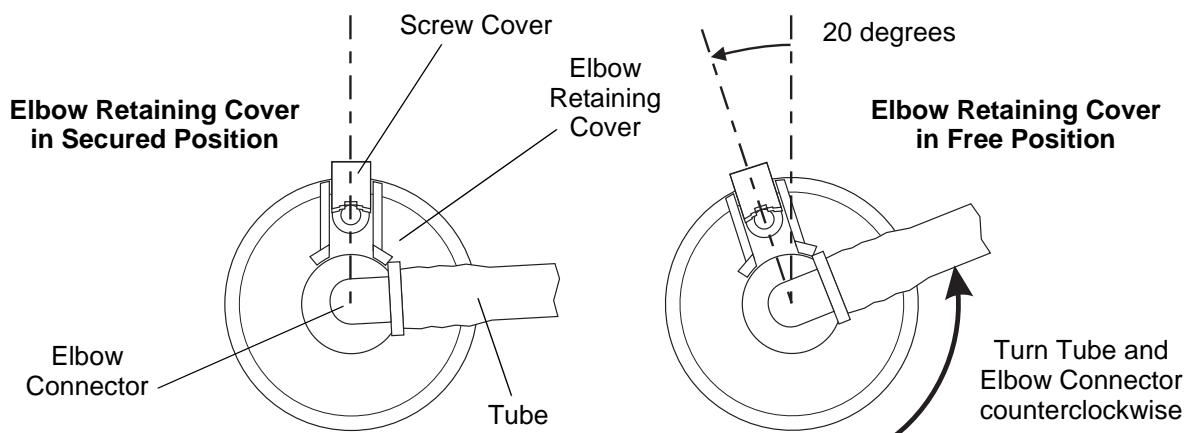

Figure 36 - Releasing the Hose Set Connector
- 8.3 Turn the elbow retaining cover approximately 20 degrees counterclockwise, to the "free" position (Refer to Figure 36).
Note: To turn the elbow retaining cover more easily, use the tube and elbow connector to provide extra leverage. Turn the tube and elbow connector counterclockwise until the elbow connector touches the screw cover, and then continue turning them to turn the elbow retaining cover (Refer to Figure 36).